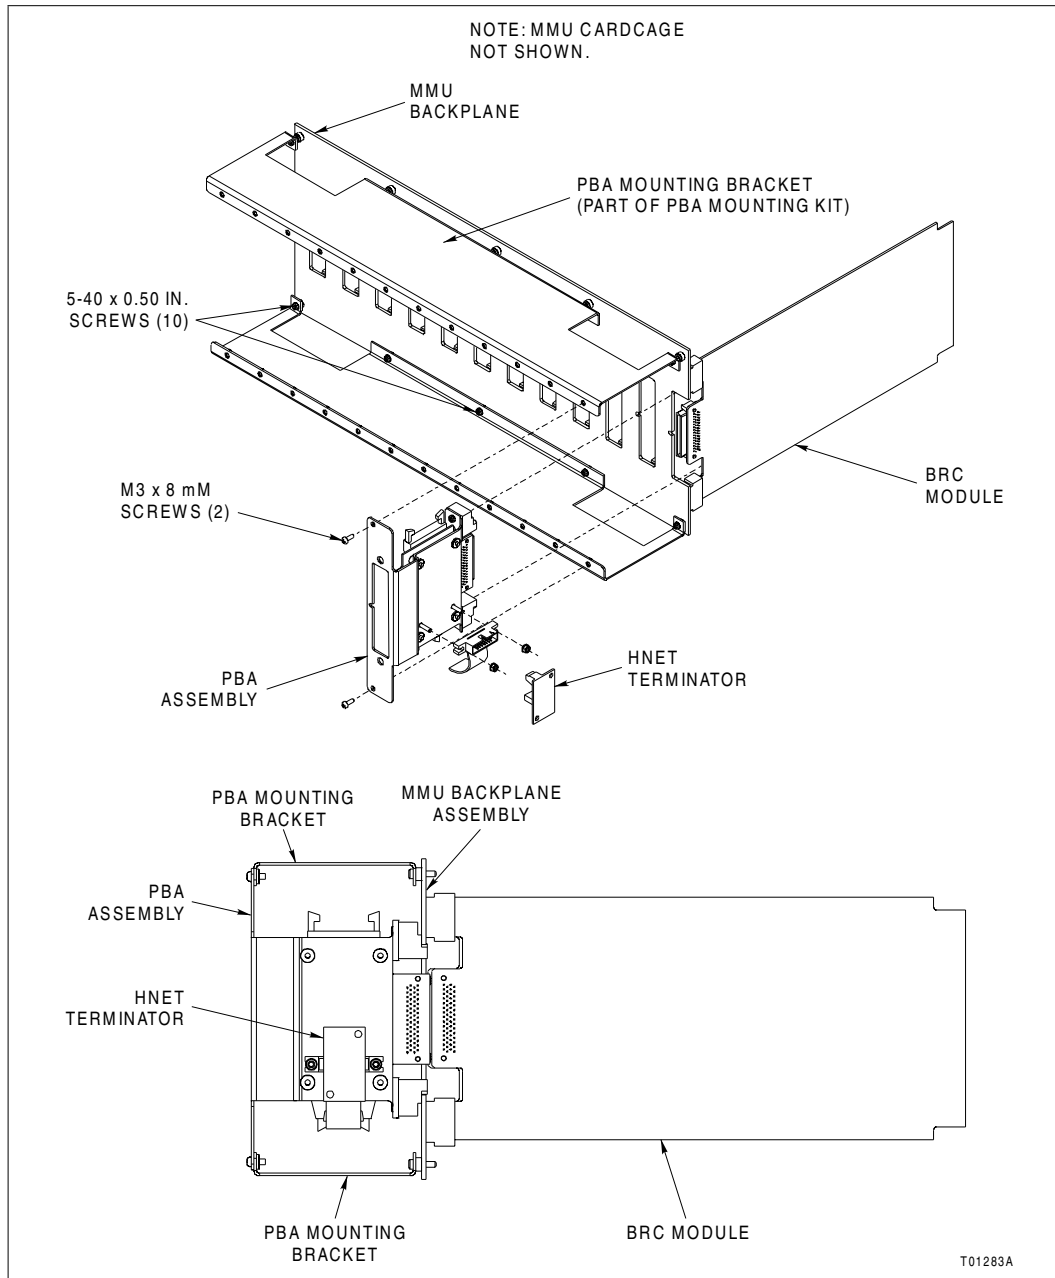

Figure 3-3. PBA Installation
2. Install one PBA mounting bracket to the top of the module mounting unit backplane assembly using five screws, flat washers, and spacers. Refer to Figure 3-3.
There are two PBA board mounting procedures presented. The first procedure covers redundant installations (two PBA boards), the second procedure covers nonredundant (single PBA board) installations. Figure 3-3 shows an example of how the PBA board mounts to the PBA mounting bracket.